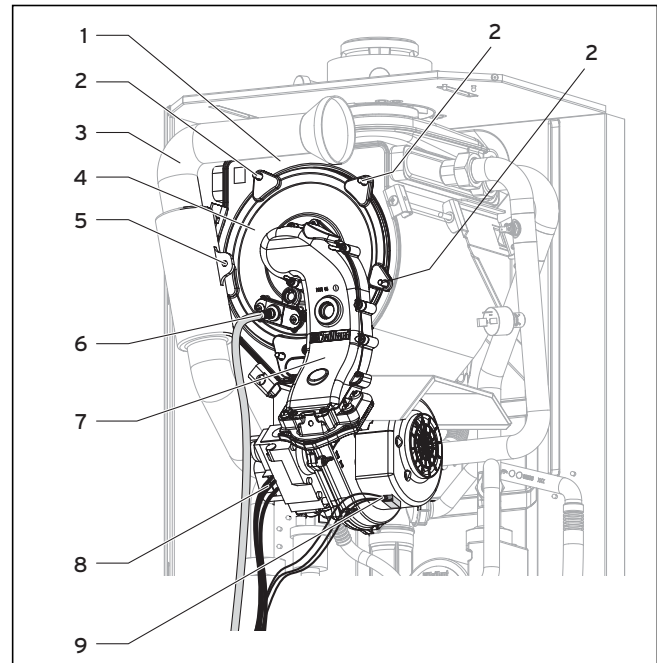
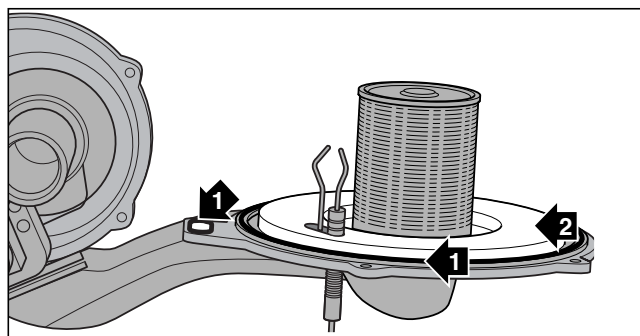

Fig. 7.1 Dismounting/Mounting the compact thermal module
Fig. 7.3 Checking seals and burner flange insulation
The compact thermal module consists of a speed-controlled fan, combined gas/air fittings, the gas supply (mixer tube) for the fan of the pre-mixing burner and the pre-mixing burner itself. These four components make up the complete assembly that is the compact thermal module. Proceed as follows to dismantle it: (see fig. 7.1)
The two silicon seals (1) on the compact thermal module (fig. 7.3) (SP no. 98-1046) must be replaced every time maintenance is carried out. The burner flange insulation (2) on the compact thermal module (fig. 7.3) (SP no. 21-0734) must not show any signs of damage; if it does, it must also be replaced.
- Put the compact thermal module (4) onto the integral condensation heat exchanger (1) (fig. 7.1).
- Tighten the five nuts (2) evenly and crosswise.
- Put the air intake pipe (3) onto the intake socket and tighten the screw (5).
- Connect the gas supply line (10) with a new seal (SP no. 98-0012) to the gas fitting (fig. 7.3). Use the spanner flat at the flexible gas line to hold the gas fitting.
- Connect the two plugs of the ignition and grounding lines to the ignition electrode (6).
- Connect the cables (9) to the fan motor and the cable (8) to the gas fitting.
- Clean the heating spiral (1) of the integral condensation heat exchanger (2) using regular vinegar essence (fig. 7.3). Rinse with water.
- The condensate receptacle can also be cleaned via the opening (3).